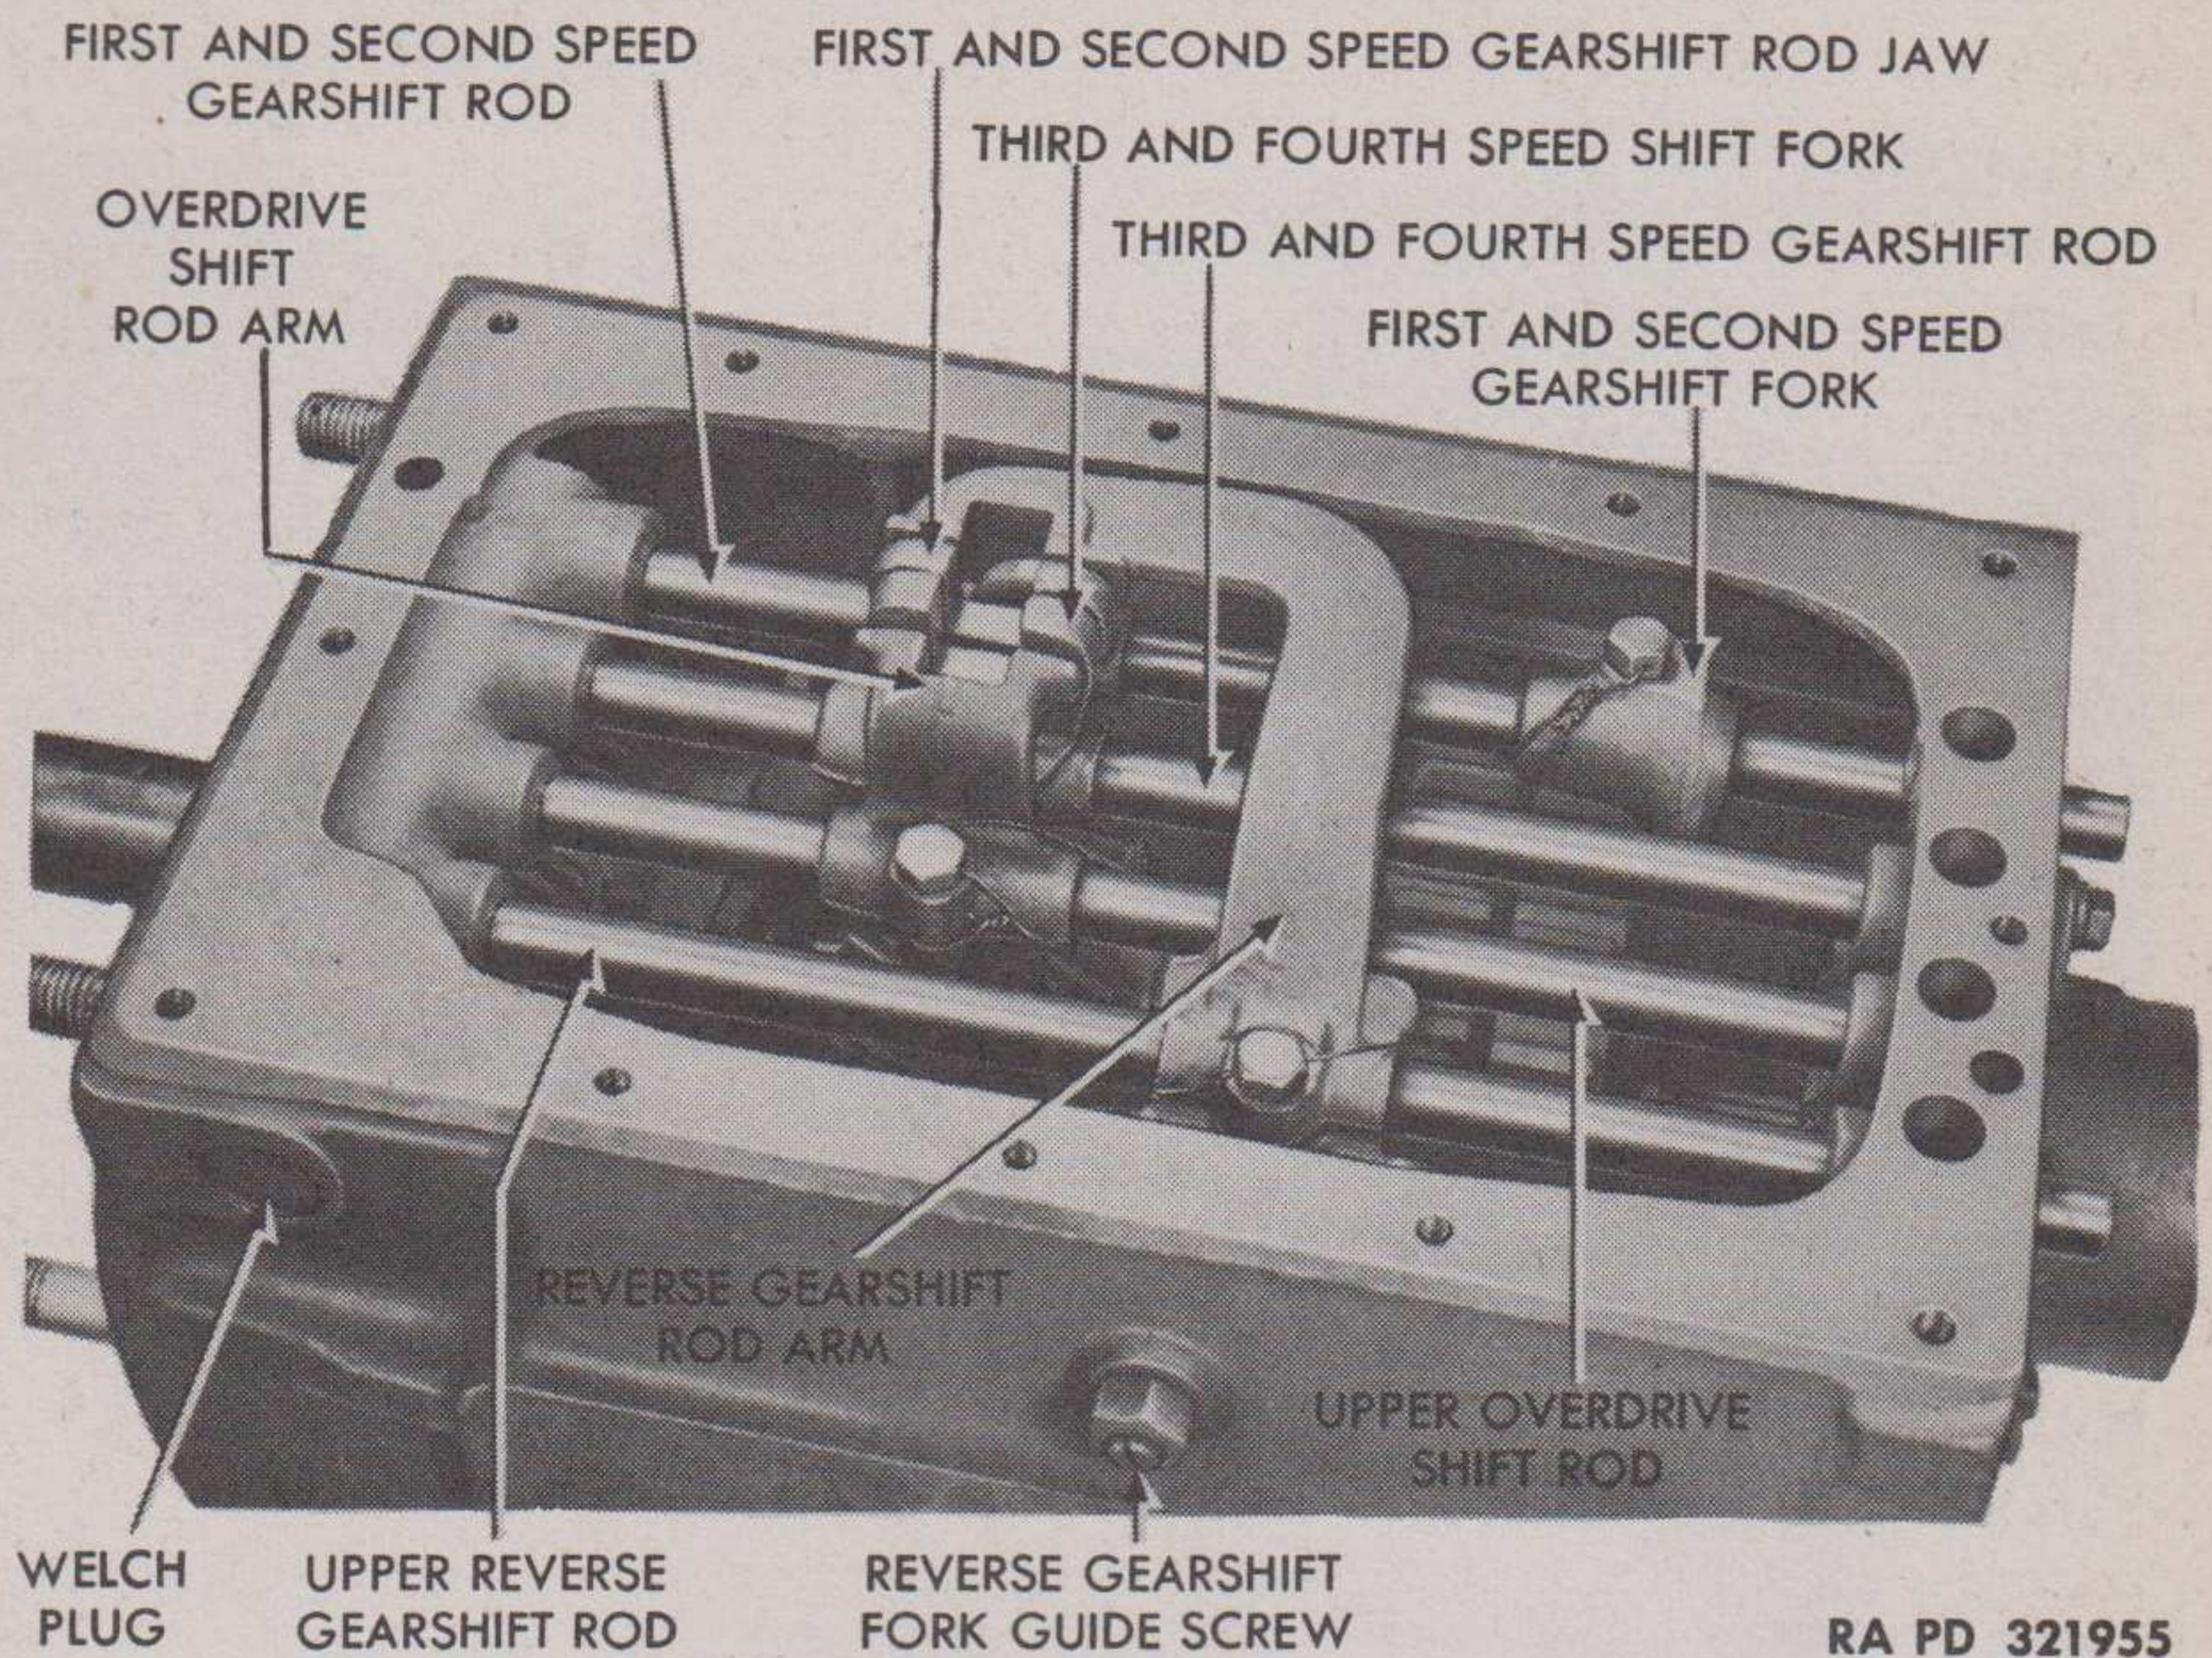

Figure 8 – Transmission Cover Removed
e. Remove Gearshift Rods and Arms (figs. 8 and 9). Place gearshift rods in neutral position by lining up slots in shifting rod arms to form one continuous slot (fig. 8). Remove rod arm lock wires and cap screws. Tap gearshift rod out either end of case about 5 inches. Grasp protruding end of rod with one hand and pull rod out of rod arm and transmission case, at the same time placing other hand over opening in case to catch rod plunger and spring, which are held in position by the rod and will pop out when rod is pulled out of case. Remove rod plunger from other end of case. Repeat operation to remove remaining rods and arms. **NOTE:** *No plungers or springs are used on lower overdrive and reverse rods.*